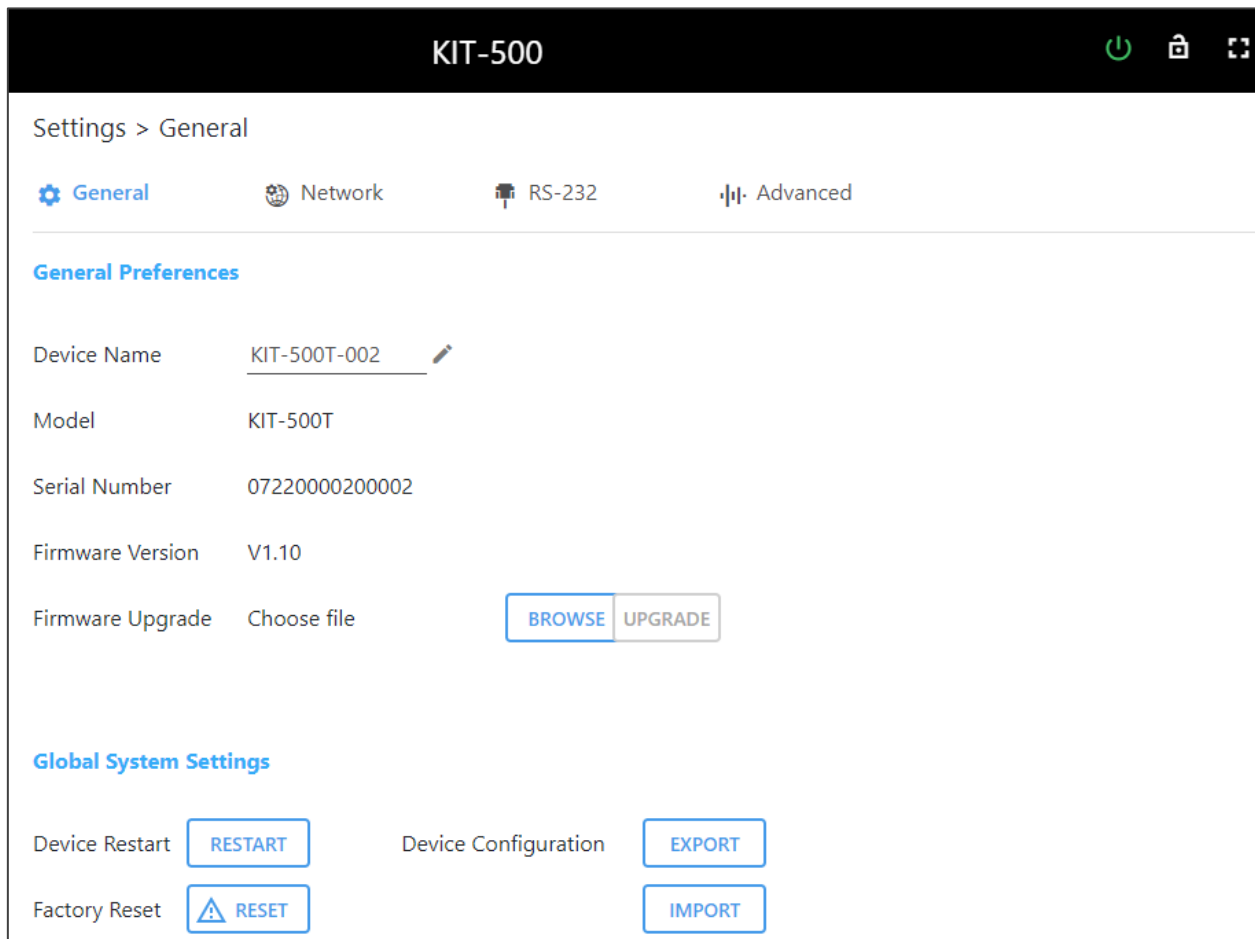

Figure 22: KIT-500 Device Settings – General
The Device General Settings page appears (Figure 22).
1. In the navigation bar, click the **Device Settings** tab. The Device General Settings page appears (Figure 22).